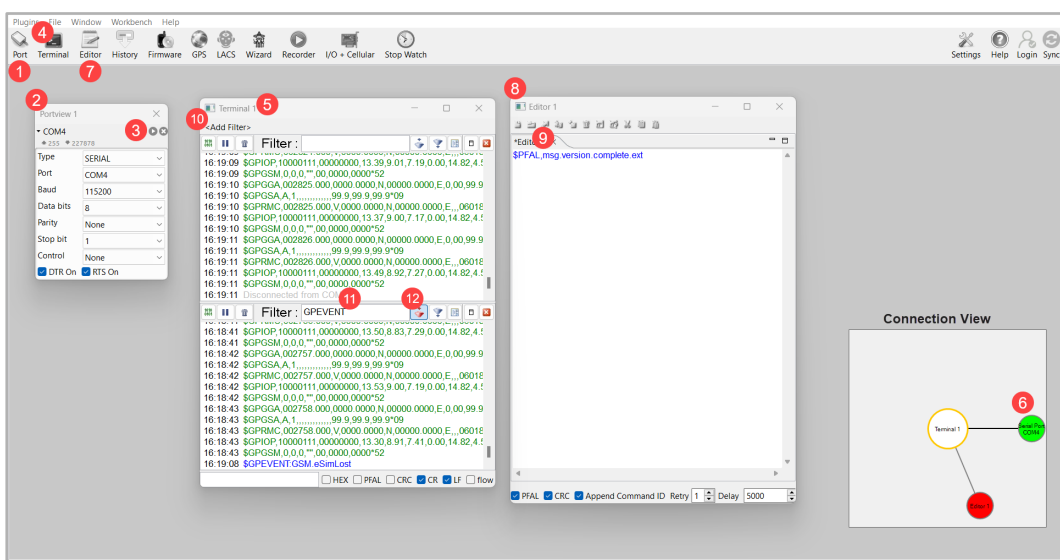

Figure 10: Workbench Interface Components
- Click **Port** (1), to open a new Com Port, **Portview 1** (2) displays (see Figure 10). In **Portview 1**, select the port to which the the FOX4-4G is connected (go to Device Manager > Ports > USB Serial Port (COMxx), where xx is the COM port to use). Set the port settings as follows:
<p>Testing IOs as analogue inputs:</p>	<p>When the reference IO (e.g: IO/1) is configured as analogue input with <code>"\$PFAL,IO0.Config=AI,2,10"</code>, you have to calibrate first this IO the low and high voltages. To do it, perform the following steps (e.g. IO/1):</p> <ol style="list-style-type: none"> Switch the IO/1-Switch (IO/1) to "Digital IN - Low" position. Send the command <code>"\$PFAL,IO0.Calibrate,offset=0"</code> from the Workbench Editor  (see Fig. 10) to FOX4-4G device. Switch the IO/1-Switch (IO/1) to "Digital IN - High" position. Send the command <code>"\$PFAL,IO0.Calibrate,gain=15"</code> from the Workbench Editor  (see Fig. 10) to FOX4-4G device. Switch the IO/1-Switch (IO/1) to "Digital OUT / analogue IN" position. This position has a fixed voltage of approx. 6V. <p>Now, you can configure an alarm (e.g. <code>\$PFAL,CNF.Set,AL31=Sys.Timer.e0&IO.s0>6.0:IO6.Set=high</code>) to switch on an LED (e.g. IO/3) when the voltage on the IO/3 is higher than e.g. 5.0 V. To test it, perform the steps below:</p> <ol style="list-style-type: none"> Send the configuration <code>"\$PFAL,CNF.Set,AL31=Sys.Timer.e0&IO.s2>5.0:IO13.Set=hpulse,5000"</code> from the Workbench Editor  (see Fig. 10) to FOX4-4G device. Switch the IO/1-Switch (IO/1) to "Digital OUT / analogue IN" position. Send the command <code>"\$PFAL,Sys.Timer0.Start=single,1000"</code> from the Workbench Editor  (see Fig. 10) to FOX4-4G device. <p>After the timer expires (1 second has passed), the red LED on the FOX4-4G device (front side, next to the 6pin accessory port) goes ON for 5 seconds and then turns OFF. For more details about the LEDs on the FOX4-4G device, refer to the Related Documents [2].</p>